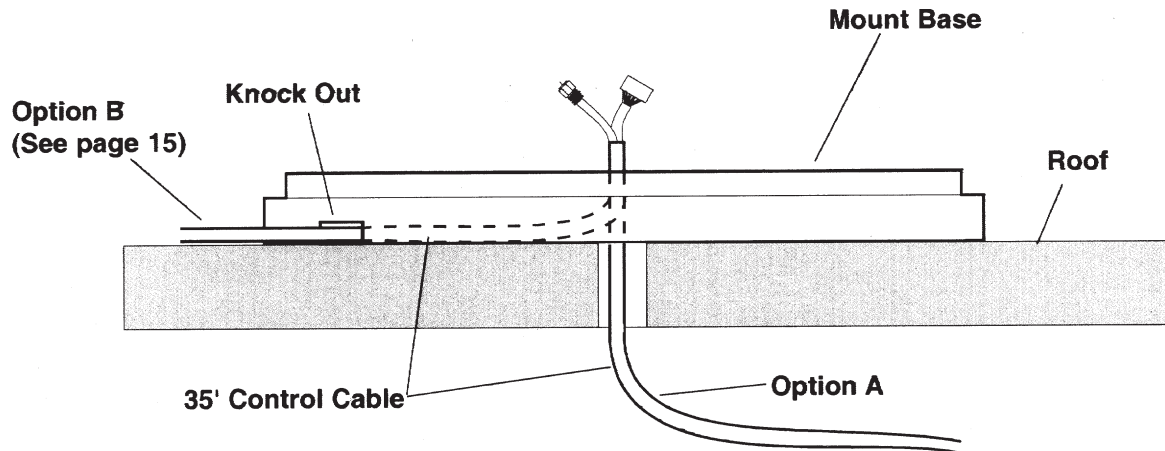

Figure 5
1. Your RV/coach design (i.e. flat roof, rounded roof, obstructions, etc.) will determine how and where you mount the system. You have two options for running the control cable; Option A: Run the cable straight down from the mount (see Figure 5) or Option B (see page 15, cable roof-thru plate installation): Snap the knockouts on the base and run the cable to a different entry point (refrigerator vent, etc.)*. Figure 6 shows the knock out location on the base..